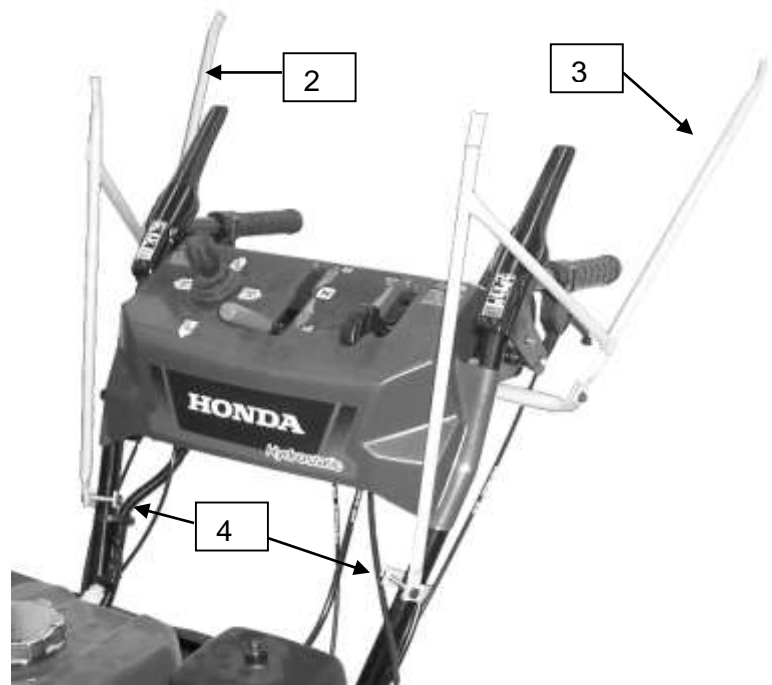

Figure 3
Step 3; See Figure 3 & 3A: Install Brackets (2 & 3) and "U" Clamps (4).